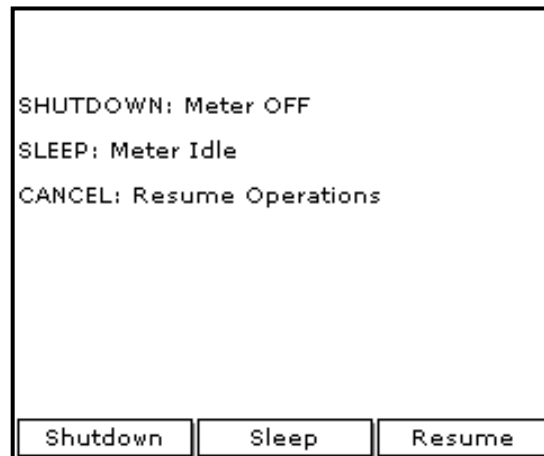

Figure 31: Shutdown Menu
1. Press the red power key for 3 seconds. The screen now appears similar to *Figure 31*.